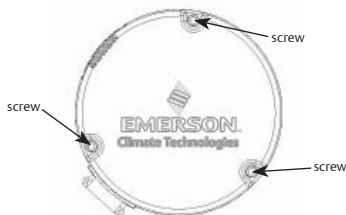
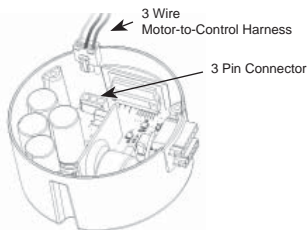

Figure 7b
Figure 8b
2. Remove three screws securing the motor and control unit together. Grasp the control unit and pull away from motor until both units are separated [Figure 7b].
3. Disconnect the three-wire motor-to-control harness from the control [Figure 8b] and remove control unit [Figure 7b]. Inspect for bent, damaged, or recessed wires and terminals inside of connector.